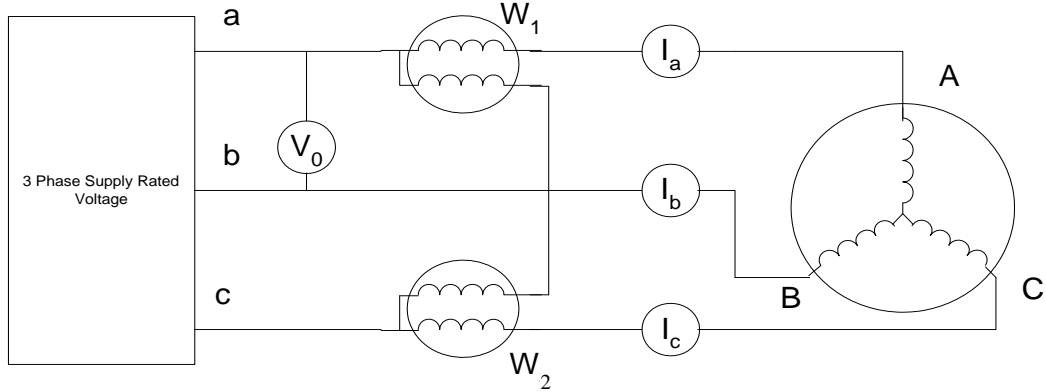

Figure 5. Schematic diagram for the no load test
1. Connect the 3-phase induction motor to the 3-phase supply as shown in figure 5. The rated voltage is V_0 .